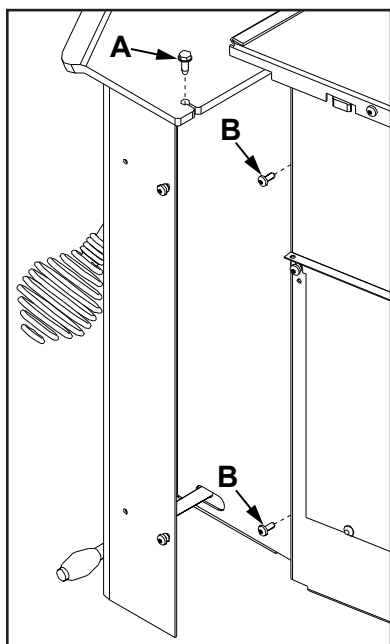

Figure 58: Removal of right pod.
4. Remove the screw, using a $\frac{5}{16}$ " socket or wrench, that goes down through the firebox top into a bent over tab at the top of the shroud (see A in Figure 58).
- b. For the second method (recommended for the right shroud), remove the two (2) T-20 screws that hold the shroud to the unit (see B in Figure 58). Pull the shroud out through the side.